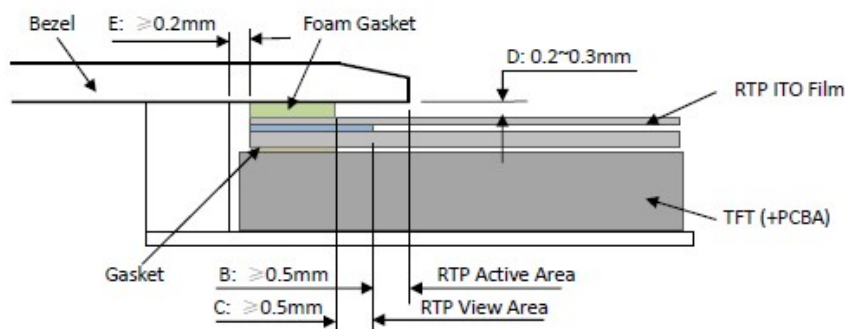

Figure 4
- It should bezel touching the RTP Active Area (A.A.) to prevent abnormal touch. It should left gap $D=0.2\sim0.3\text{mm}$ in between. (Figure 4)
- Outer bezel design should take care about the area outside the A.A. Those areas contain circuit wires which is having different thickness. Touching those areas could de-form the ITO film. As a result bezel the ITO film be damaged and shorten its lifetime. It is suggested to protect those areas with gasket (between the bezel and RTP). The suggested figures are $B\geq0.50\text{mm}$; $C\geq0.50\text{mm}$. (Figure 4)
- The bezel side wall should keep space $E=0.2\sim0.3\text{mm}$ from the RTP. (Figure 4)
- 为避免面框直接压在动作区 (A. A.) 上造成误动作, 面框与电阻触摸屏 (RTP) 之间应留有一定的空隙 $D=0.2\sim0.3\text{mm}$ 之间. (附图 4)
- 设计面框时, 要注意用面框保护触摸屏四周的非保证操作区域, 因为布线区域在此处形成一台阶, 在此区域附近操作时 ITO Film 变形较大, 容易导致 ITO 损坏而降低寿命. 为保护 RTP 和避免误操作, 在 RTP 与面框之间垫缓冲物 (Gasket), 我们建议设计面框应覆盖动作区的边缘, 面框边缘到 V. A. 区的距离 $B\geq0.50\text{mm}$; 垫圈内边缘到 V. A. 区的距离 $C\geq0.50\text{mm}$. (附图 4)
- 在设计面框与 RTP 组装时, 应考虑到面框内侧与 RTP 外侧的间距 $E\geq0.2\text{mm}$. (附图 4)